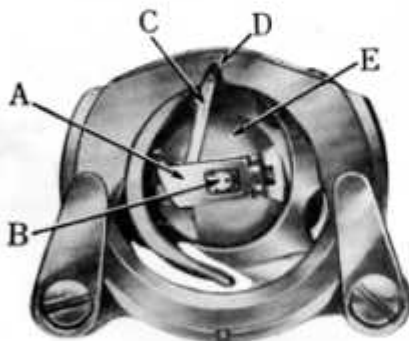

Fig. 8
Open cover plate in front of the needle. Hold the bobbin case latch, (A), Fig. 8, between the thumb and forefinger of the left hand, with at least three inches of thread running from the top of the bobbin case to the right. Insert and center the bobbin case on the stud of the shuttle body, (B). Be sure the bobbin case finger, (C), is opposite shuttle race notch, (D).